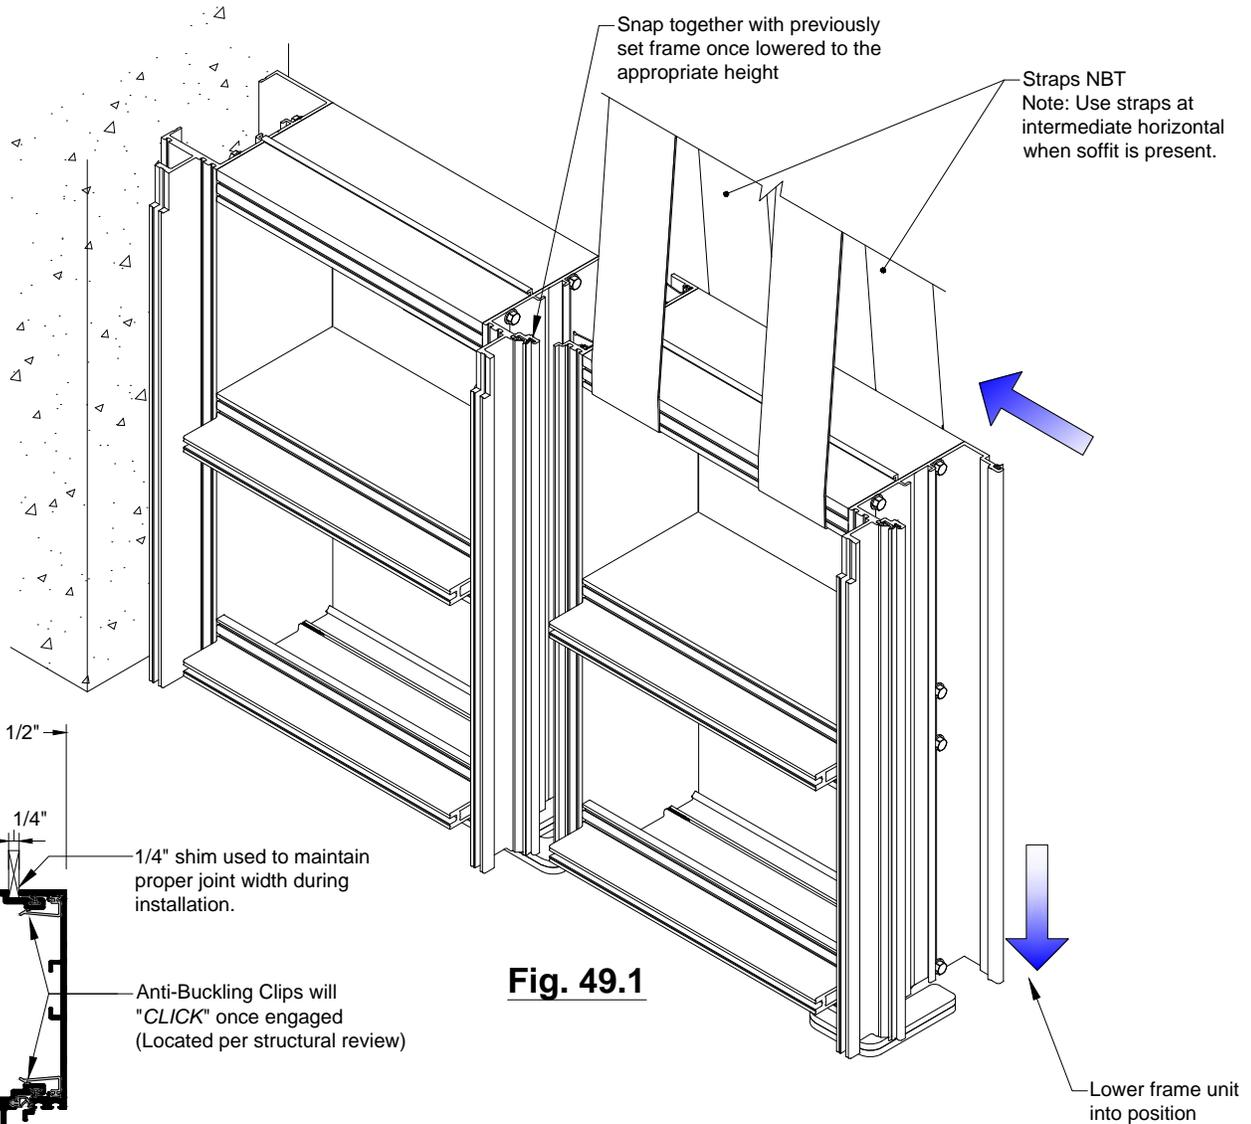

Fig. 49.1
- iii. From the floor above, install the next frame unit by engaging the mullion halves together. A click will be heard when the anti-buckling clips are properly engaged. Check to see that the bottoms and tops of the adjacent frame units align and the width of the intermediate verticals are consistently 2-1/2". Shims should be used at the interior in between the mating verticals to maintain a consistent 1/4" joint. See Fig. 49.1 & 49.2. Repeat steps i., ii. on previous page, and iii. until all lower frame units are installed.
- a.b. **Top of Slab Anchor:** When all adjustments have been made, install E0199 1" x 1" x 1" channel between P4765 anchor shoes to lock in place. Cut length should be snug and is determined by field conditions. Attach channel to anchor plate ball with S017 #10 x 5/8" PH. See Fig. 49.1.